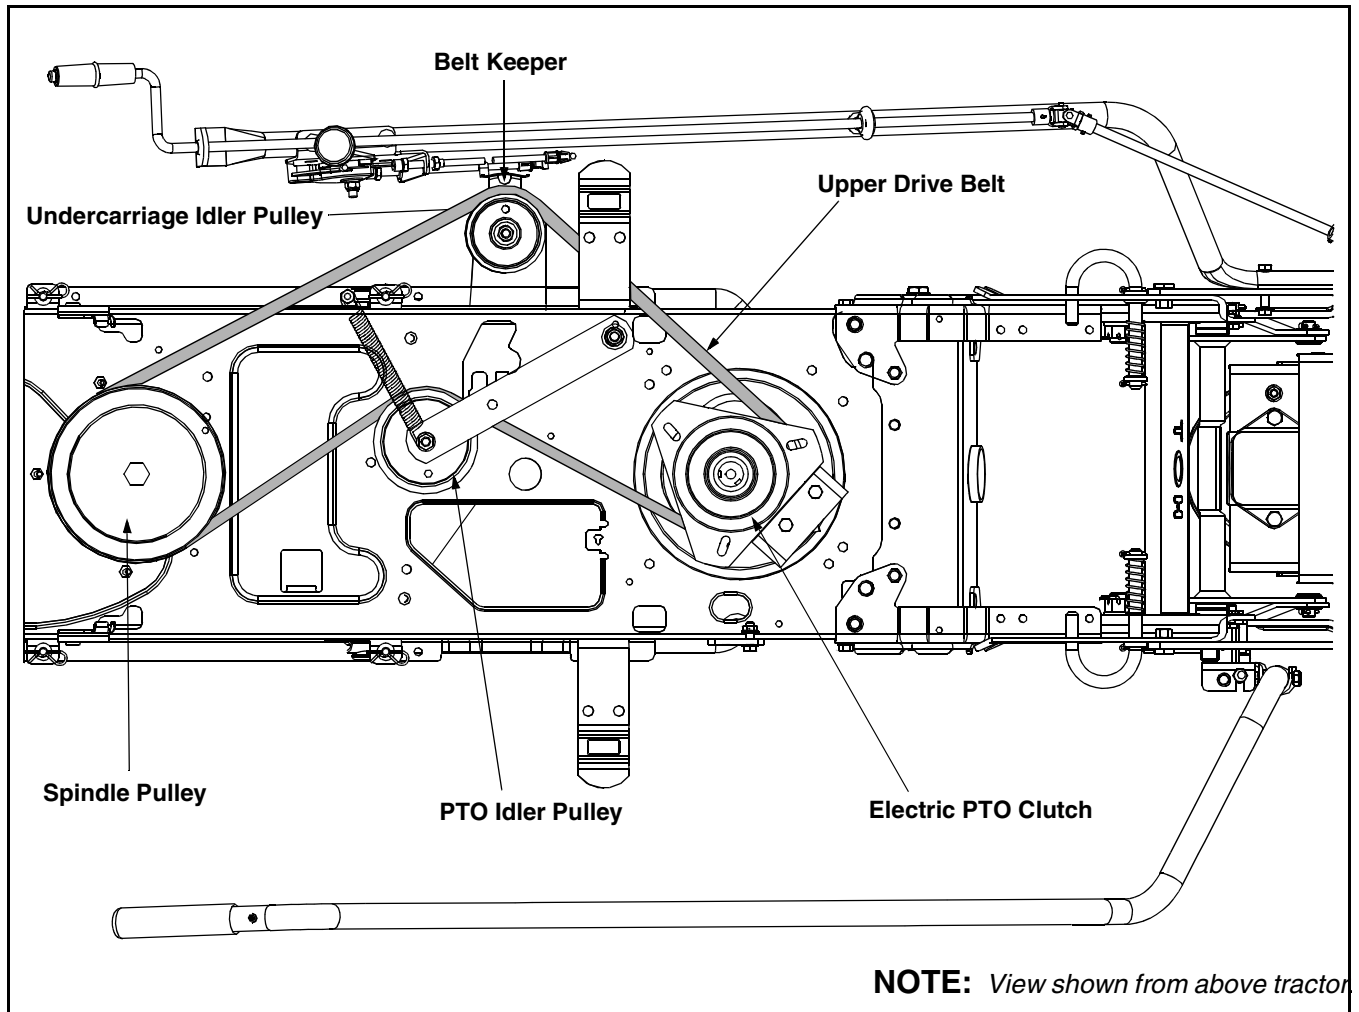

Figure 17
* The belt-routing configuration illustrated in Figure 17 DOES NOT apply to tractors equipped with a 54-inch deck. For tractors equipped with a 54-inch deck, refer to Figure 16 on page 11.
1. Attach and route the upper drive belt around the spindle pulley and idler pulley found on the undercarriage, the electric PTO clutch and the PTO idler pulley as illustrated in Figure 17. Make sure that the belt is routed to the INSIDE of the belt keeper on the undercarriage idler pulley and the remaining keeper pins found around the spindle pulley.